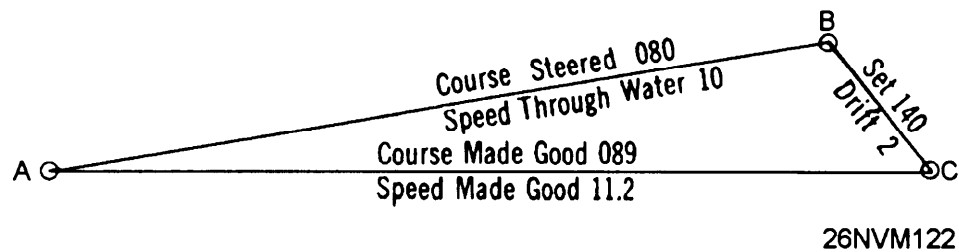

Figure 11-8. Finding set and drift.
**Example:** The ordered course and speed is 080° at 10 knots. You have just plotted the 1000 fix, which shows the ship right of track. What is the set and drift? Refer to the following table and figure 11-8 to find set and drift.